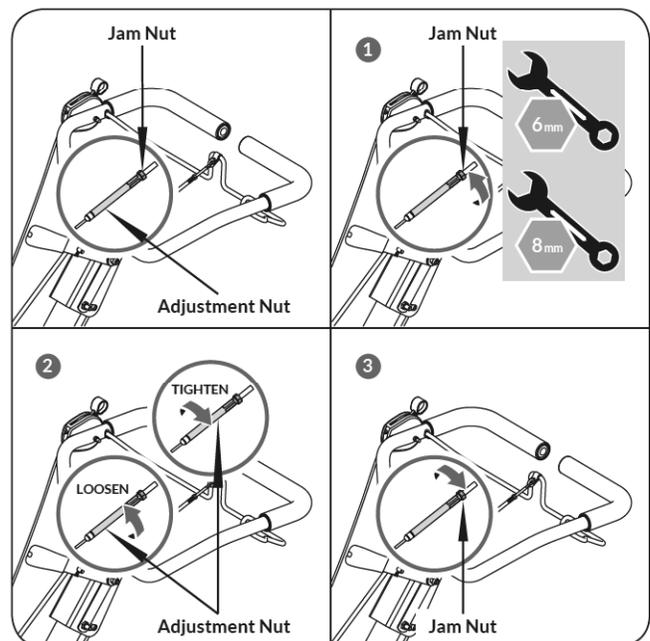

Figure 9
1. Loosen the jam nut by turning it counter clockwise with 8mm wrench while holding the adjustment nut in place with 6mm wrench. (see **Figure 9, Illustration 1**)
2. Tighten (or loosen) the cable by turning the cable adjustment nut clockwise (or counter clockwise) with a 6mm wrench until you have reached your desired tightness. (see **Figure 9, Illustration 2**)
3. Once you have reached your desired cable tightness, tighten the jam nut by turning it clockwise until it is tight. (see **Figure 9, Illustration 3**)